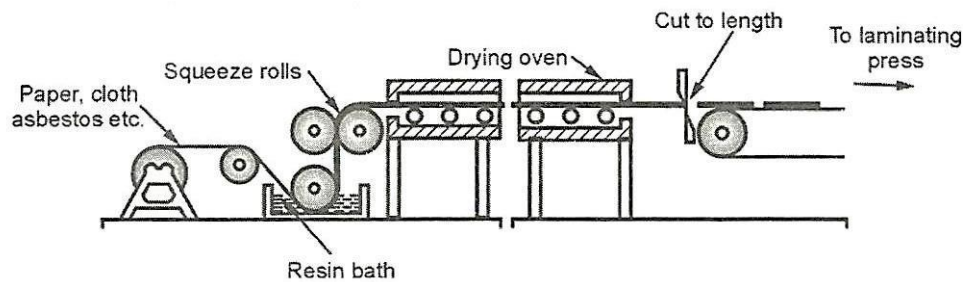

Figure 5.14. Laminating Processes
- These sheets are then dried, cut to size, heated and pressed between metal plates to form the laminated plates. Refer figure 5.14.